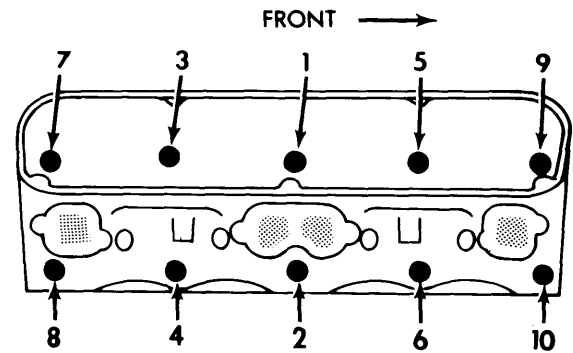

Fig. 2 Cylinder Head Tightening Sequence
**Installation** - Clean all gasket surfaces of cylinder block and head. Coat new gasket with suitable sealer. Install gasket and cylinder head on cylinder block. Install cylinder head bolts and tighten to specifications in two steps. Use tightening sequence shown in Fig. 2.